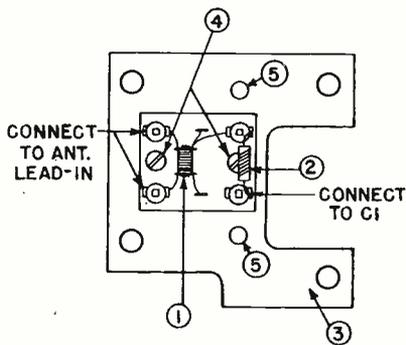
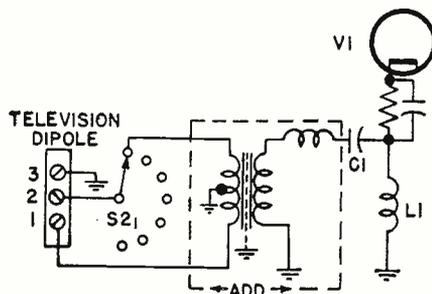

Figure 1
Figure 3
5. Assemble transformer (1) (see Fig. 1), Stock No. RLA-033 to mount-
ing plate (3), Stock No. RAP-008, using two No. 4-40 x 5/16" screws, nuts, and lockwashers. Solder choke (2), Stock No. RLI-037, as shown in schematic, Fig. 3, and mechanically mount as shown in Fig. 1. Also, fasten the two brass ground straps, removed in step (2), to the holes (5) shown in Fig. 1, using two No. 4-40 x 5/16" screws, nuts, and lockwashers.
7. Solder  $C_1$  to choke as shown in Figs. 1 and 2.
8. Re-connect antenna input transmission line to terminals as shown in Fig. 1.